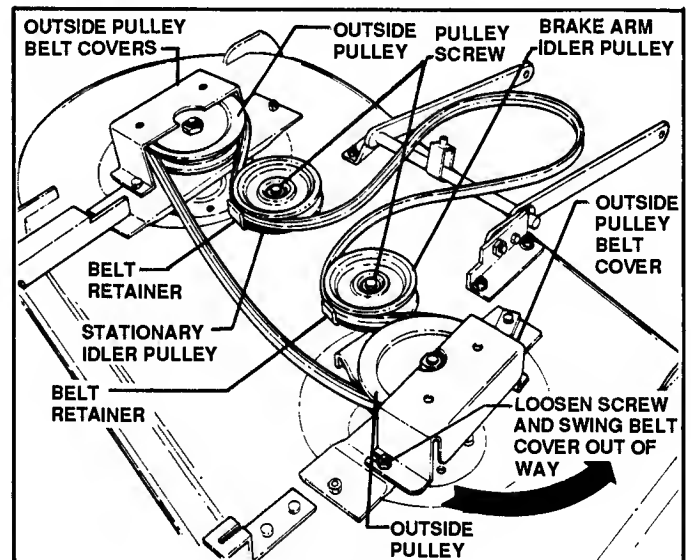

FIGURE 18
6. Route new belt around pulleys as shown in Figure 18.